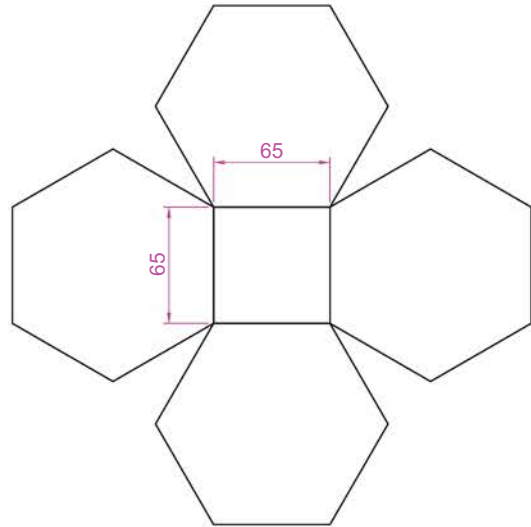

Fig. 4.28 Exercise 6
6. Fig. 4.28 shows a rectangle in the form of a square with hexagons along each edge. Using the **Dimensions** prompt of the **Rectangle** tool, construct the square. Then, using the **Edge** prompt of the **Polygon** tool, add the four hexagons. Use the **Object Snap** endpoint to ensure the polygons are in their exact positions.